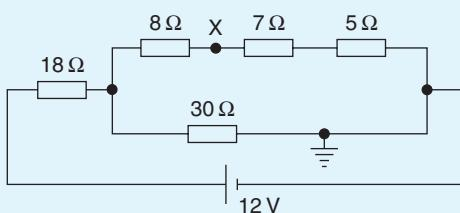

Figure 5.38
- For the circuit shown in Fig. 5.38, calculate (a) the voltage drop across the  $7\Omega$  resistor, (b) the current through the  $30\Omega$  resistor, (c) the power developed in the  $8\Omega$  resistor, (d) the voltage at point X w.r.t. earth, and (e) the absolute voltage at point X.